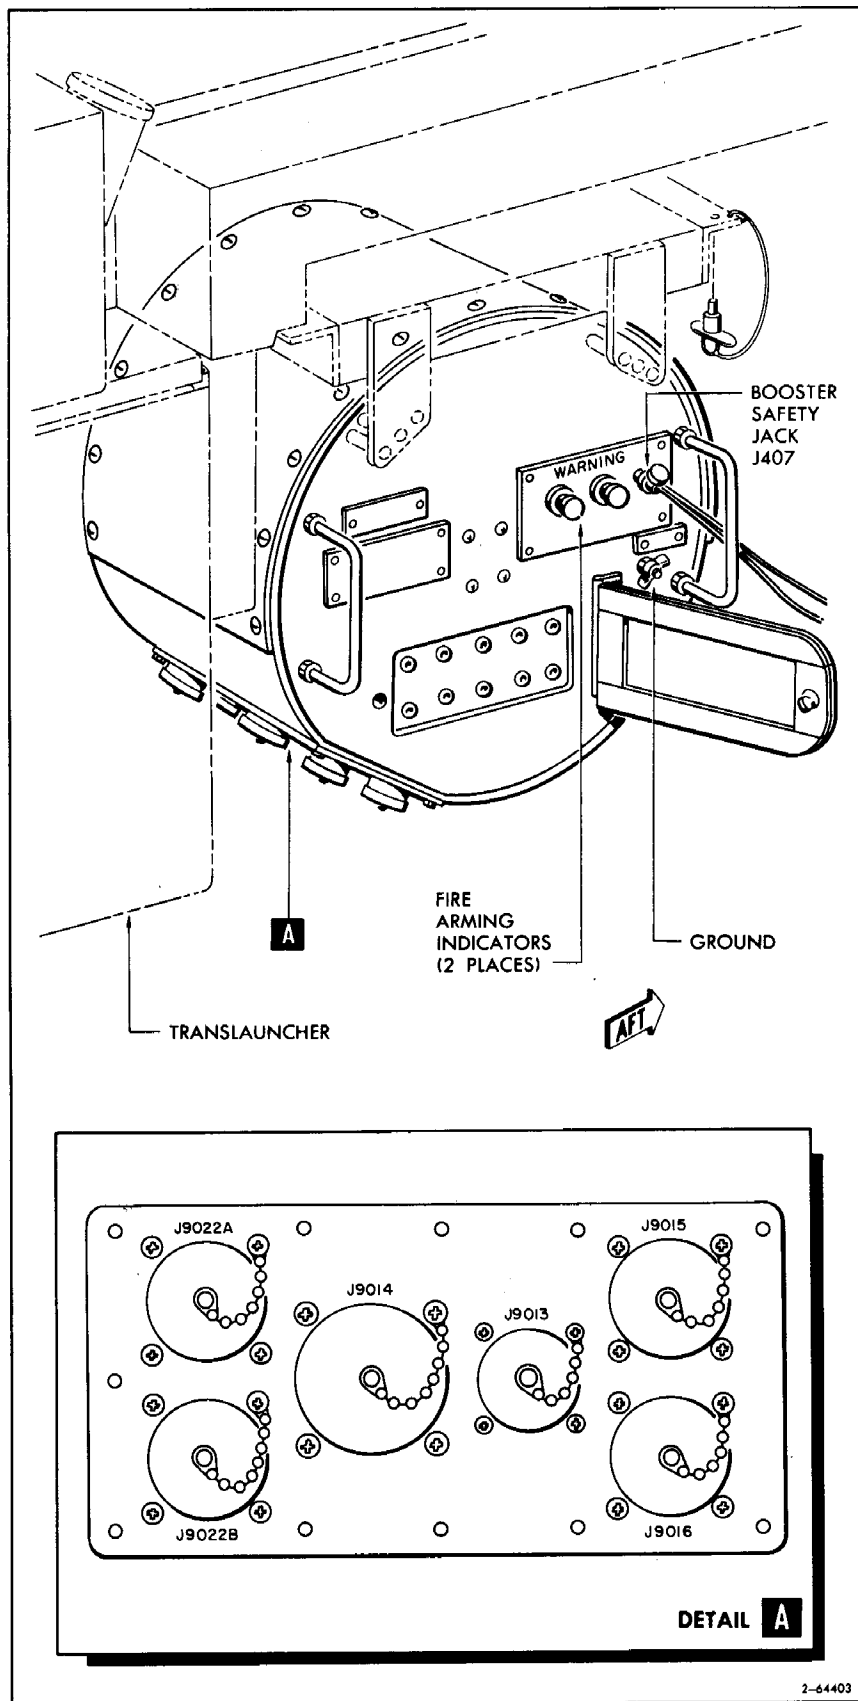

Figure 3-22. Umbilical Outlet Box
k. Connect gyro slaving cable to receptacle J9013 on Umbilical Outlet Box (figure 3-22).